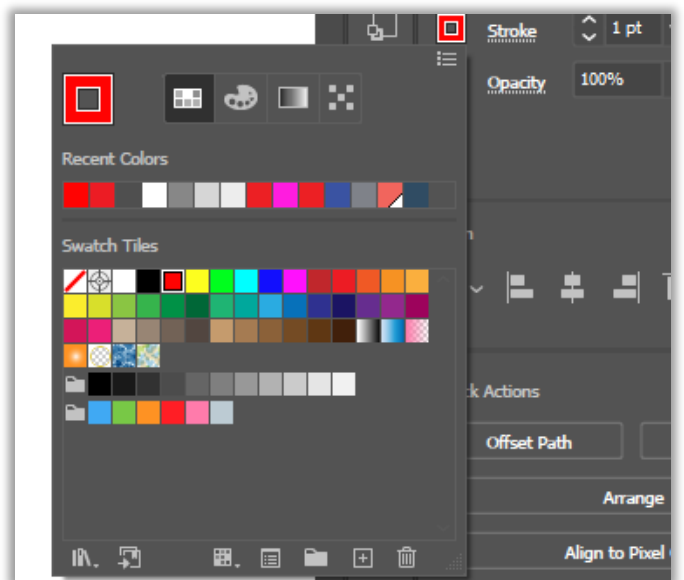

Figure 3: View of the default RGB swatches, with the red swatch selected
4. Now, you'll want to change the stroke color to red. You can just select the red swatch in the color menu as seen in **Figure 3**